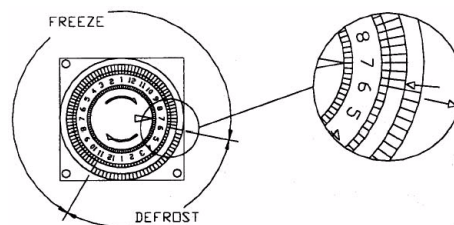

FIGURE 10
1. SETTING CURRENT TIME - Rotate the program disc, in the direction of the arrows, to align the correct time of day with the time of day mark. Figure 10 shows the timesetting of 7:00.
2. SETTING DEFROST MODE - Set the defrost period by pushing the switch actuator toward the outer edge of the program disc. Freeze time is set by pushing the switch actuators toward the center of the time switch. Figure 10 shows a defrost time from 11:00 to 6:15. The light and dark shaded areas of the program disc indicate day and night respectively. Each actuator is equivalent to 15 minutes.